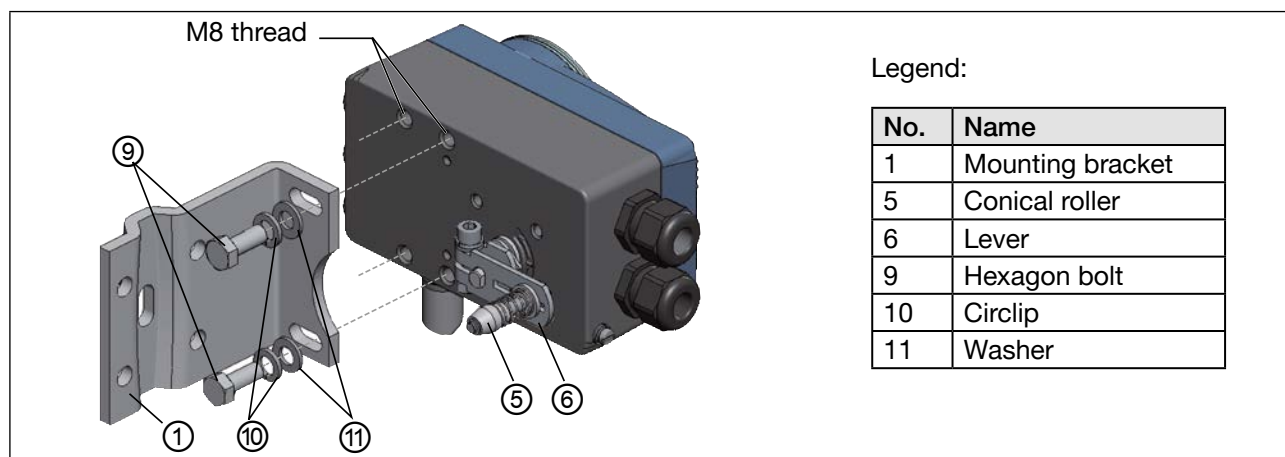

Fig. 15: Attaching mounting bracket
→ Attach mounting bracket ① to the back of the Type 8792/8793 with hexagon bolts ⑨, circlip ⑩ and washers ⑪ (see “Fig. 15”).
The conical roller ⑤ on the lever ⑥ of the position sensor must be able to move freely in the hoop (refer “Fig. 15”) along the entire stroke range of the actuator.